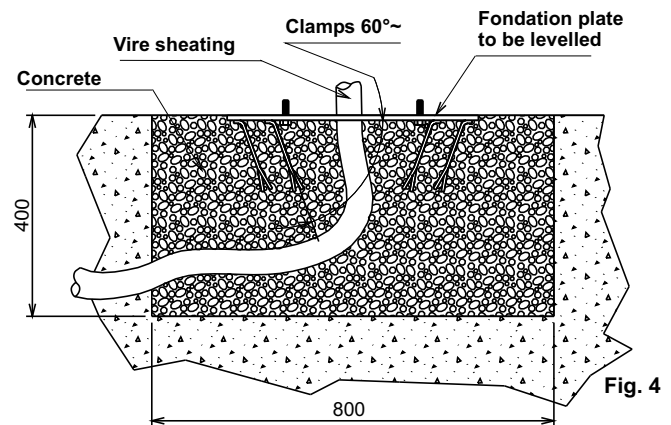

Fig. 4
- Widen the foundation plate clamps at 60° (Fig. 4)
- Fill the hole with R425 concrete and place the foundation plate as in Fig. 4.